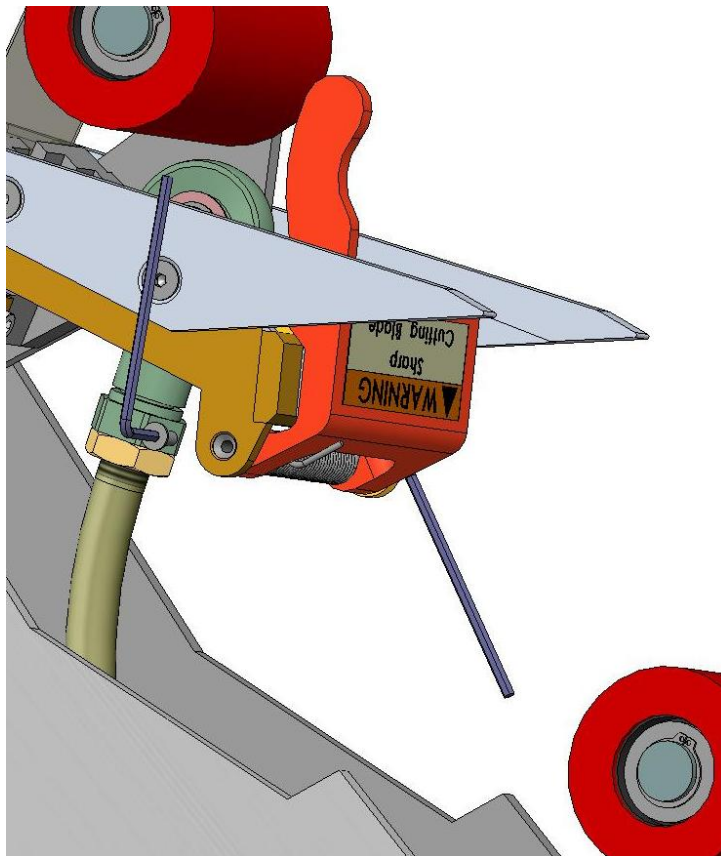

Figure 10-18
1. Apply some purple Loctite to the threads of the M3 screw and fasten to the end of the cross shaft. Tighten using two 2mm hexagonal keys as shown in **Figure 10-18**